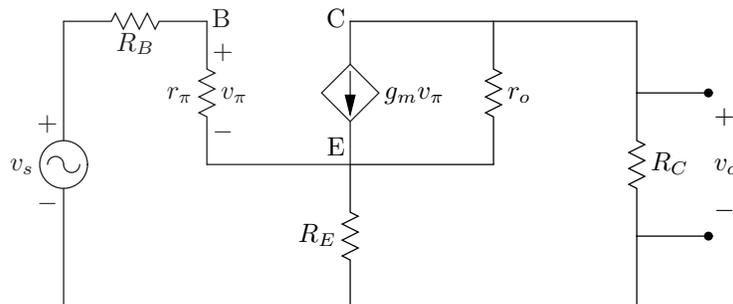

**Figure 2:** (a) NMOS transistor with body terminal explicitly shown (b) NMOS transistor with body implicitly tied to source
- Figure 2(a) shows a transistor called an n-MOSFET, short for **n**-channel **metal-oxide-semiconductor field effect transistor**. We often call these NMOS or NFETs for short. Although you haven't learned how these work yet, you can still simulate them in SPICE. The terminals of the device are labeled for you: **D**rain, **G**ate, **S**ource, and **B**ody. In this case, the body is connected to the source, a configuration we'll see often in this course. In this configuration, transistors are often drawn as in Figure 2(b).
- Write a netlist for the circuit in Figure 2 using the following parameters: